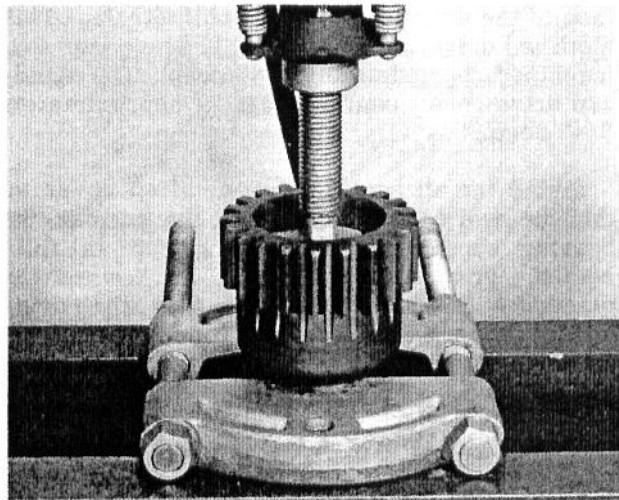

Fig. 103 - Spherical Bearing Cup Installation
14. Install the spherical bearing cup in the main axle shaft and install the axle tapered bearing cone. Refer to Figs. 103 and 104.